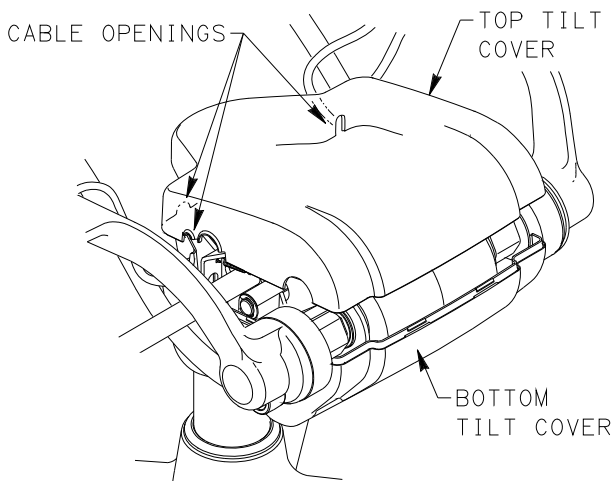

FIGURE 2
12. PLACE TOP TILT COVER ON TILT AND ALIGN WITH BOTTOM TILT COVER. ROUTE ALL CABLES THROUGH CABLE OPENINGS AND SNAP COVERS TOGETHER. SEE FIGURE 2.